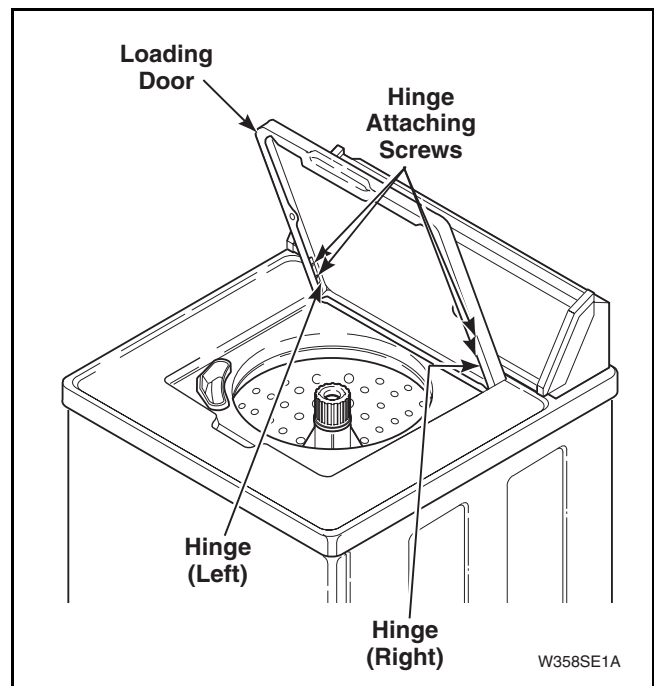

Figure 10
- a. Open loading door. Refer to *Figure 10*.
- b. Remove two screws holding left hinge to door and remove gasket (if present) and hinge. Refer to *Figure 10*.